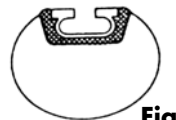

Fig. 13
11. Sticky wax the female into the formed recess in the abutment casting being careful not to get wax inside the attachment. (Fig. 13)